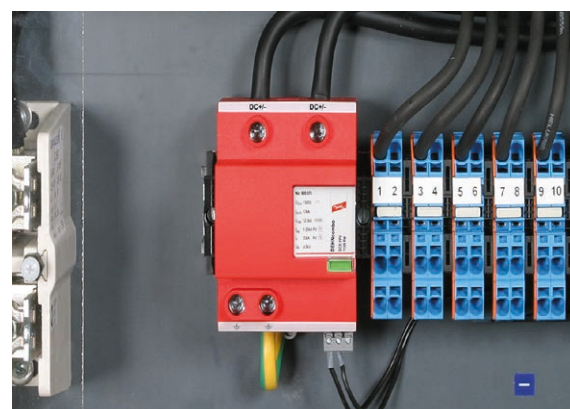

Figure 6 DEHNcombo YPV type 1 combined arrester for protecting photovoltaic systems from surges and partial lightning currents
With their proven fault-resistant Y circuit, DEHNcombo YPV (FM) combined arresters (**Figure 6**) fulfil the above mentioned requirements. PV generators with up to 10,000 A can be protected by DEHNcombo YPV (FM) without an additional backup fuse. This arrester combines a lightning current arrester and a surge arrester in a single device, thus ensuring efficient protection of terminal equipment. With its discharge capacity I_{total} of 12.5 kA (10/350 µs), it is very flexible and can even be used for the highest classes of LPS. DEHNcombo YPV (FM) is available for